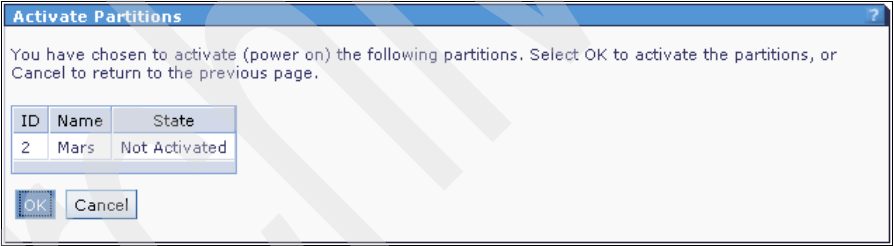

Figure 4-28 Confirm partition activation
2. Confirm the activation of the partition with **OK** as shown in Figure 4-28.